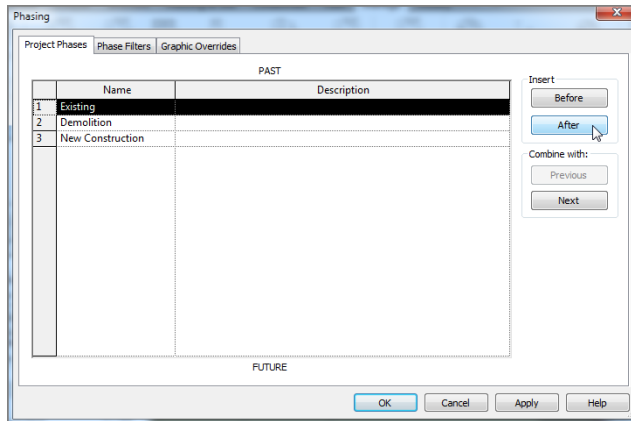

FIGURE 21.2: Starting to add the Demolition phase
3. In the Insert section, click the After button, as shown in Figure 21.2.